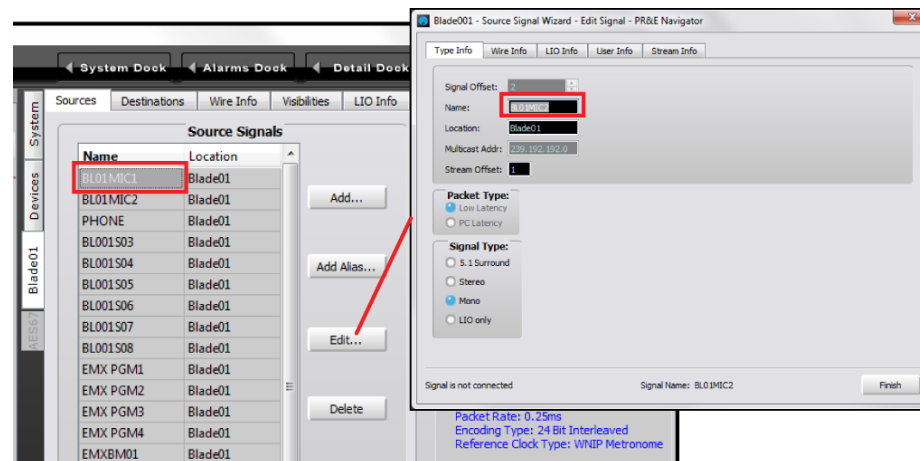
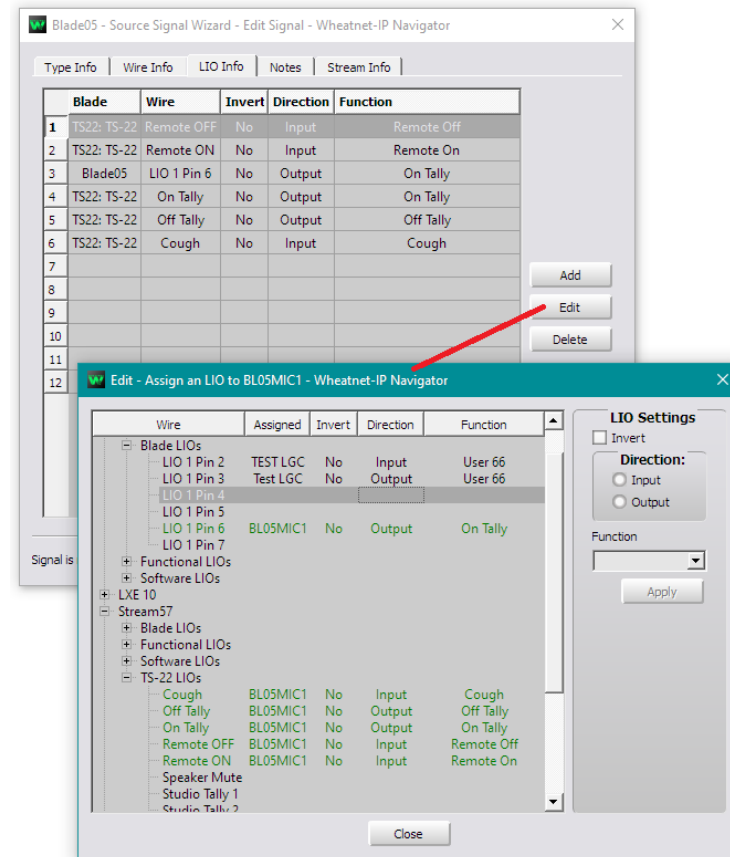

Figure 3-29 Editing a Signal
Figure 3-31 Logic Assignment tab
To edit the name, click on the name in the **Source Signals** section of the tab then type in a new name of up to eight characters. You can alternately click once on the name to highlight it then click **Edit...** to open the **Signal Edit** window (shown in Figure 3-29) and edit the name in that window, as shown by the red outlines.
Click on the other mono signal (BL01MIC1) to highlight it and click **Edit...** to open the edit window (Figure 3-29). Change the **Signal Type** selection from Mono to Stereo. You can then edit the name back to its generic name: BL001S01 or, if you know what stereo device will connect to that input, enter the device’s name in the **Name** entry box. Click **Finish** to close the Edit Window.
Note: You cannot edit a source or destination signal while it’s connected in the Crosspoint grid. When the **Signal Edit** window opens (Figure 3-29) look at the bottom of the window to verify it shows “Signal is not connected.” If it shows “Signal is connected” you won’t be able to make any changes to that signal other than editing its name.
To create an Alias, click on a Source name (you can also set up an Alias on a Destination or on a logic signal, but most often an Alias is created for a Source) then click *Add Alias...* As an example, to create an Alias for BL01MIC1, click on that name (highlighted in Figure 3-29 on the last page) then click *Add Alias...* to open the *Add Alias* window. Type in the "Talent's name" in the *Name:* entry box. Click *Finish* to close the *Add Alias* window. The Alias name is now added as a completely new "source" that can then be added to channel source visibility lists.
When the logic is associated with an audio input signal, like BL01MIC1, select that audio input name (it highlights) then click *Edit* to open the Edit Signal window (the process shown in Figure 3-29 on page 40). Click the **LIO Info** tab (Figure 3-31) to then view, edit, or delete logic settings associated with that audio signal.
Figure 3-31 also shows the typical settings used with a WNIP Talent Station (TS) in green text. It uses five logic signals to carry Remote On, Remote Off, and Cough commands from the TS to the DMX channel and sends two logic return signals (the On and Off Tally logic) back to the TS. Since TS panels are networked devices, they also use SLIO signals. Clicking *Add* or *Edit* opens the **Assign LIO** window, also shown in Figure 3-31.
On the **Blade > Destinations** tab click *Add...* to open a new *Add Signal* window. In the **Signal Type:** section, select *LIO only*. A default name is assigned to the new signal, like BL01D09. Edit that name to something useful, like CR WARN, by double-clicking on the name in the **Name:** entry box and entering a new name of up to eight characters. Click the **LIO Info** tab to open the **Logic Assignments** window, shown in Figure 3-31. On a new logic-only signal click *Add...* to open the **Assign an LIO** window, also shown in Figure 3-31. The first open port is on pin 4, which is highlighted in Figure 3-31, which allows that pin to be configured. To set that pin for a Control Room warning command, click Output as the *Direction* then